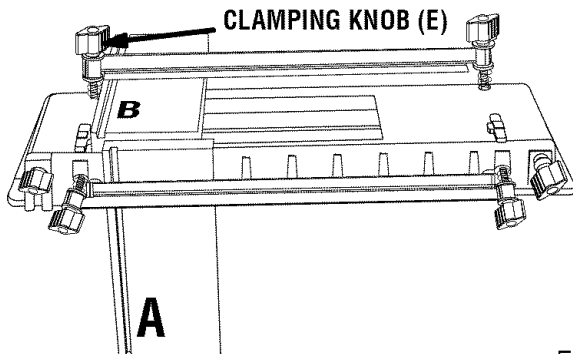

Fig. 22
- Insert board (A) between front clamping bar and front surface of dovetail base with bottom edge toward the left 2-way stop. Temporarily clamp board (A) “inside-out” to the left front of the fixture so that it extends above the base. See Figure 22. This is done to assist in the proper positioning of board (B).
- Insert board (B) between top clamping bar and top surface of dovetail base, with bottom edge against left 3-way stop, and flush with extended portion of board (A). See Figure 22.